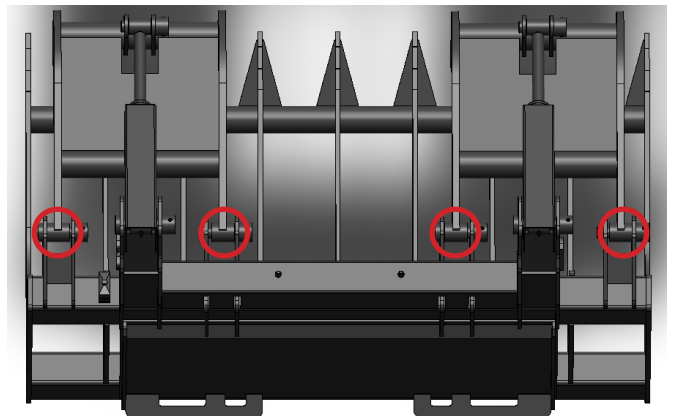

Figure 2
Grease all pivot points every eight (8) hours of use to prevent excess wear on the clamp pins. The Light Duty, Heavy Duty, Heavy Duty Series 2, and HDX Root Grapples have four (4) grease points. These points are circled in Figure 2.